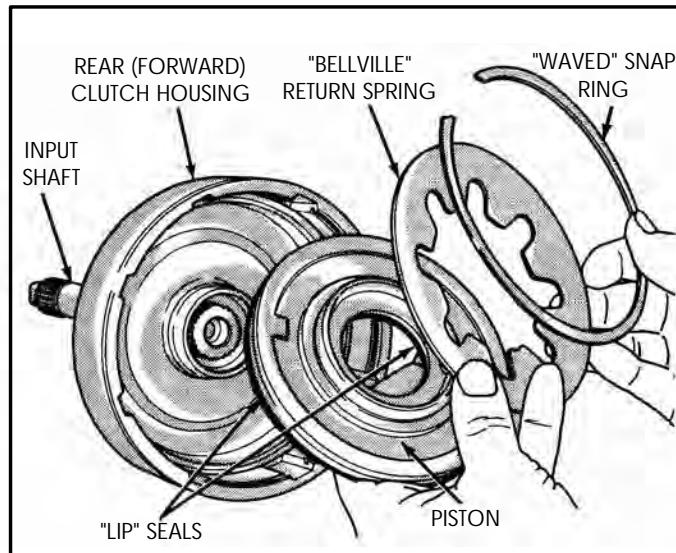

Figure 76
4. Remove the "bellville" return spring and the rear clutch piston, as shown in Figure 76.
5. Remove and discard the lip seals from the rear clutch piston (See Figure 76).
10. Install new lip seals into the grooves in the rear clutch piston with the lips facing the bottom of the housing (See Figure 76).
13. Install "Bellville" return spring into housing, as shown in Figure 76.